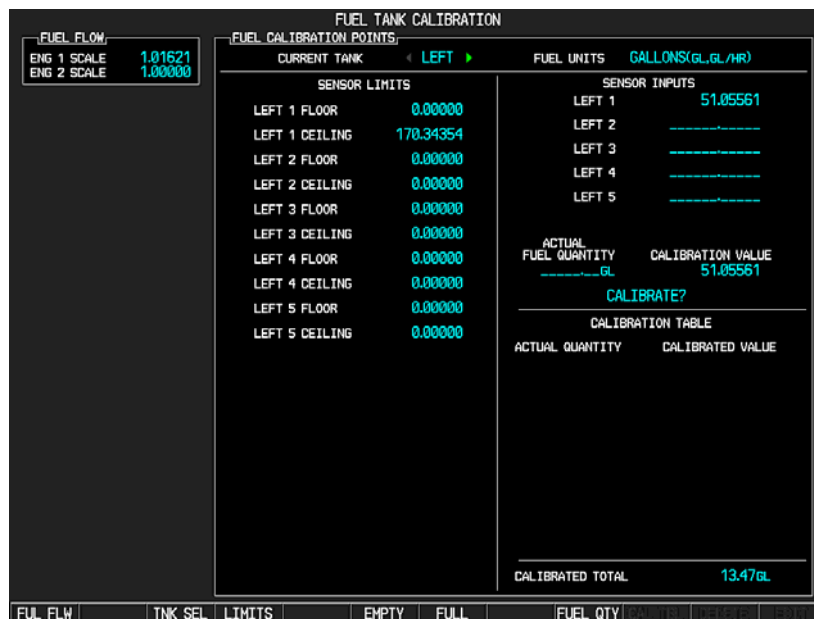

Figure 14-17. Fuel Tank Calibration Page
5. Using the PFD, go to the Fuel Tank Calibration page (see Figure 14-17).